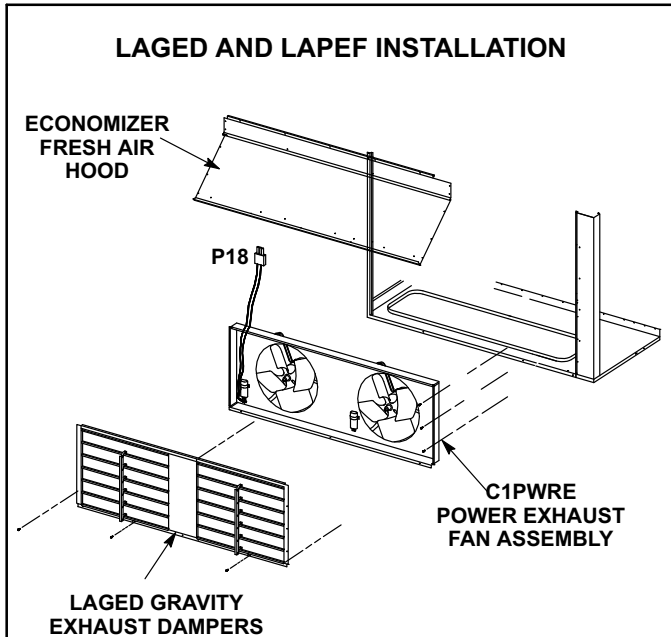

FIGURE 28
LAGED18/24 dampers (figure 28) available for TCA180/300 units, are used in downflow and LAGED(H)18/24 are used in horizontal air discharge applications. LAGED(H) gravity exhaust dampers are installed in the return air plenum. The dampers must be used any time an economizer or power exhaust fans are applied to TCA series units.
C1PWRE20C available for TCA180/300 units are power exhaust fans used in downflow applications only. The fans require optional down-flow gravity exhaust dampers and T1ECON economizers. Power exhaust fans provide exhaust air pressure relief and also run when return air dampers are closed and supply air blowers are operating. Figure 28 shows the location of the C1PWRE. See installation instructions for more detail.